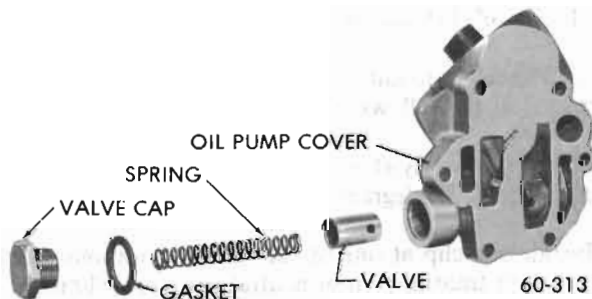

Figure 60-116 - Oil Pump Cover and Pressure-Relief Valve
4. Remove the oil pressure relief valve cap, spring and valve. See Figure 60-116. Oil filter by-pass valve and spring are staked in place and should not be removed.
1. Lubricate and install pressure relief valve and spring in bore of oil pump cover. See Figure 60-116. Install cap and gasket. Torque cap to 35 lb. ft. with a reliable torque wrench. Do not over tighten.